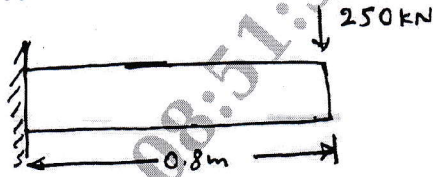

Fig.Q.5(b)
b. A cantilever beam subjected to point load of 250kN as shown in Fig.Q.5(b). Determine deflection at free end and support reactions. $E = 200\text{GPa}$, $I = 4 \times 10^6\text{mm}^4$. (10 Marks)